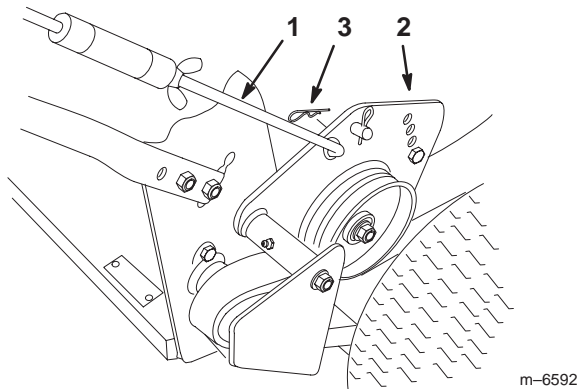

Figure 9
1. Install control rods into the bell cranks and secure them with the hairpin cotters (Fig. 9).
Note: Install rod fittings so the clevis pin is above the control rod, as shown in Figure 9.